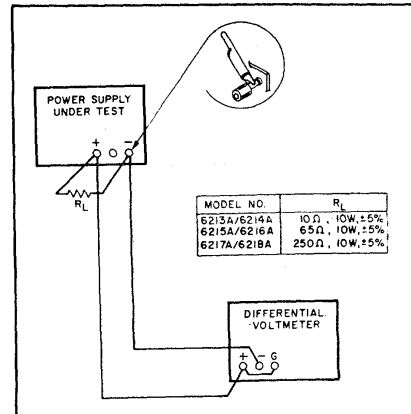

Figure 5-3. CV Load Regulation, Test Setup
- a. Connect load resistor (RL), indicated in Figure 5-3, across the output terminals of supply.
- a. Connect test setup as shown in Figure 5-3.
- b. Connect test setup shown in Figure 5-3.
- a. Connect the load resistance, attenuator, and differential voltmeter as illustrated in Figure 5-3.